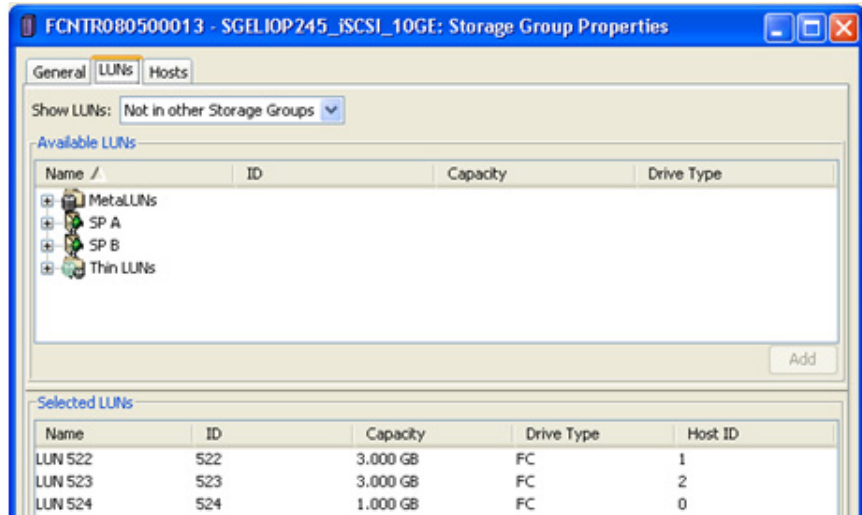
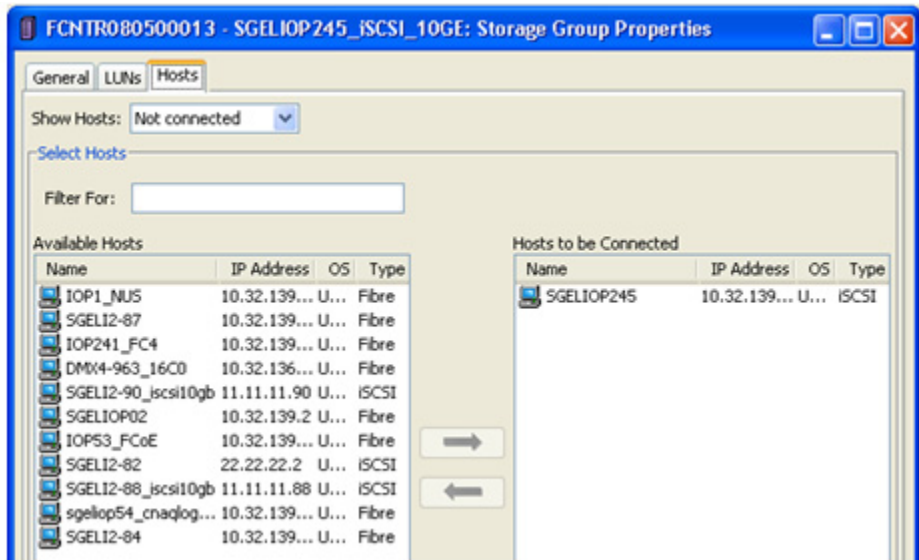

Figure 103 Verify LUNs
Figure 104 Verify host assignment
2. Verify the host assignment. Ensure that you assigned the correct host to the LUNs that you selected. In VNX series or CLARiiON, this can be configured and verified in the same window shown in Figure 103 under the **Hosts** tab, as shown in Figure 104 on page 282.
Figure 103 shows three LUNs assigned to the SGELIOP245_iSCSI_10GE storage group. This verifies that LUN masking was already configured.
Figure 104 shows the host SGELIOP245 is assigned to the SGELIOP245_iSCSI_10GE storage group you created.